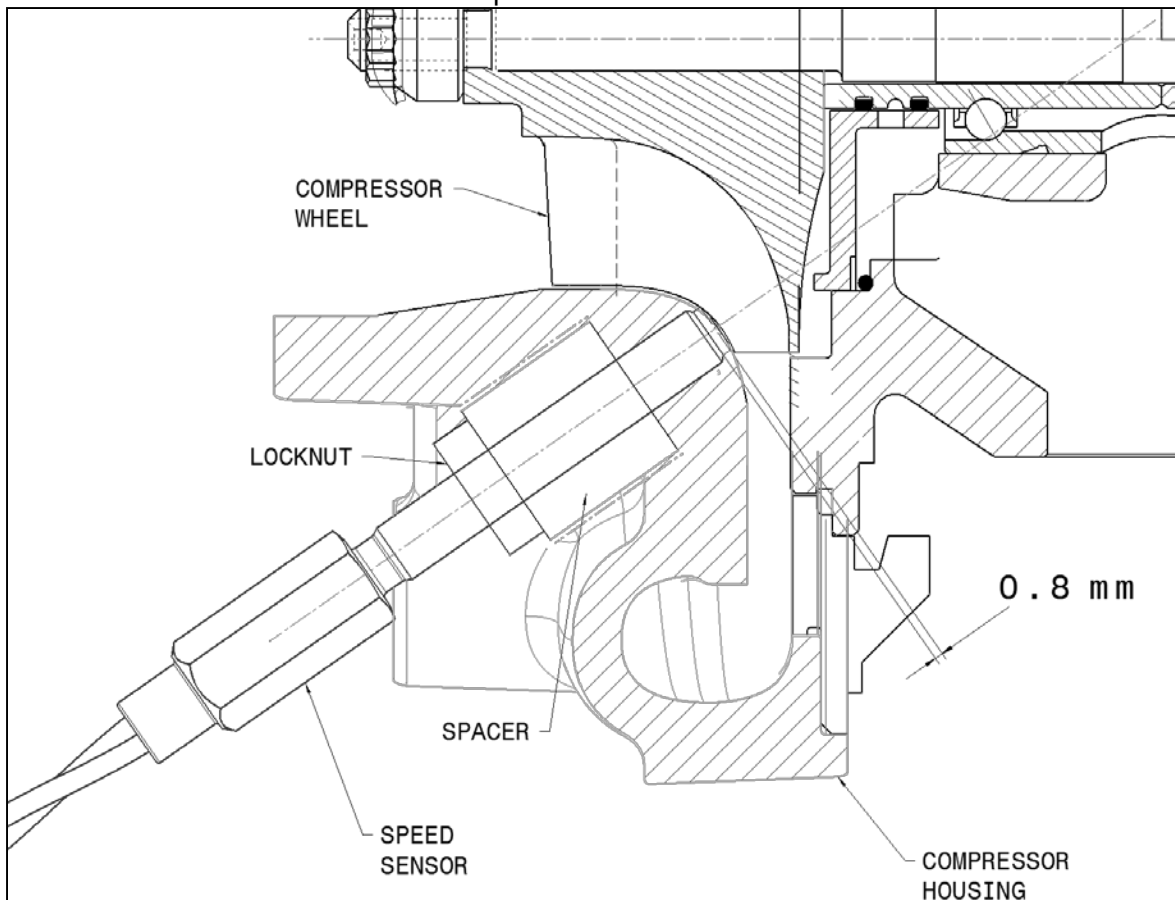

Fig. 10
10. Setting the sensor depth: if the turbocharger is still in the vehicle, ensure that there is enough space to adjust the sensor by turning it in and out. Also ensure there is sufficient space to turn the compressor wheel by hand. If not, remove the turbocharger from the vehicle. Slowly turn the sensor clockwise, while simultaneously spinning the wheel very slowly. Turn the sensor inwards, just until the tip contacts the edge of a compressor wheel blade (see figure 10). Be extremely careful not to jam the wheel into the sensor – the blades or sensor could be damaged. You should be able to feel a SLIGHT resistance and noise while gently turning the wheel as it contacts the sensor. Then turn the sensor back counterclockwise, approximately **1.6** full turns. This sets the sensor depth correctly. The nominal distance from the blade edge is 0.8mm. The sensor thread pitch is 0.5mm/thread ($0.5\text{mm}/\text{thread} \times 1.6 \text{ threads} = 0.8\text{mm}$).
NOTE: If the Garrett Turbo Speed Sensor Kit is being used with an older Garrett (T-Series) turbo, or with a non-Garrett unit, refer to figure 10 below for general placement of the sensor. It should always be installed at 0.8mm clearance from the wheel. The sensor hole should be drilled at an angle, placing the sensor near the base of the wheel below the level of the splitter blades, in order to accurately measure the speed. On custom applications the sensor can be used with or without the spacer block.